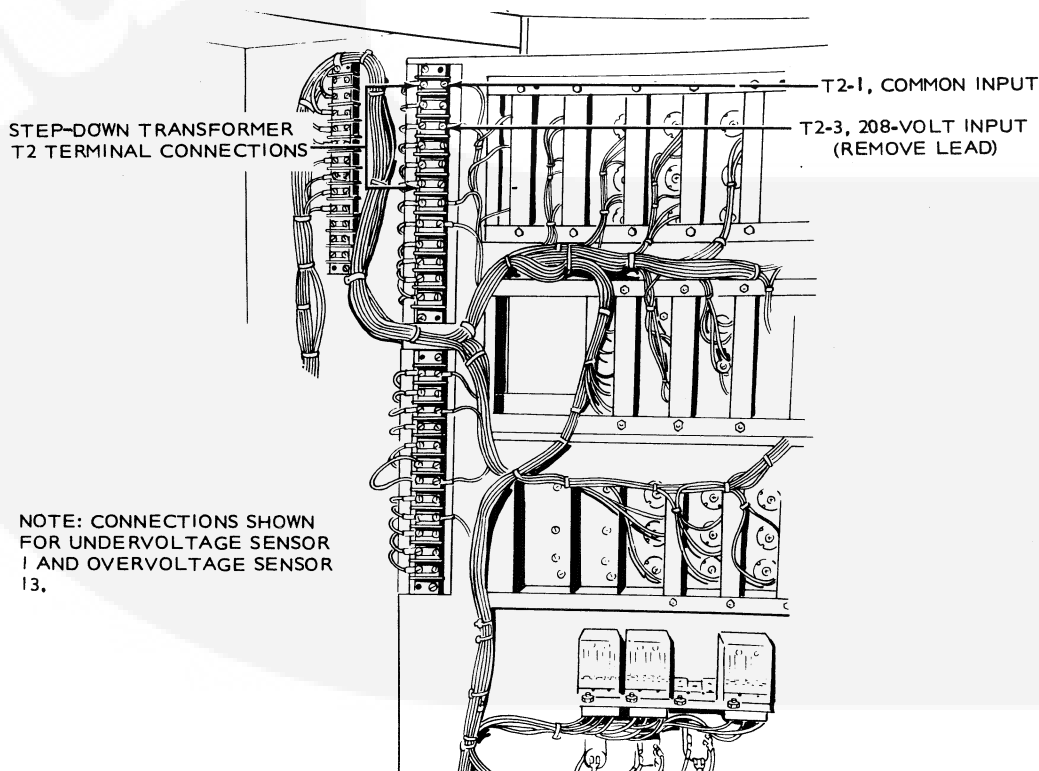

FIGURE 14. VOLTAGE SENSOR TRANSFORMER CONNECTIONS
10. On the back side and top left of the control accessory panel, remove the white plastic cover which covers the transformer terminals for T2 and T3 (Figure 14).
9. On the back side and top left of the control accessory panel, remove the white plastic cover which covers the transformer terminals for T2 and T3 (Figure 14).